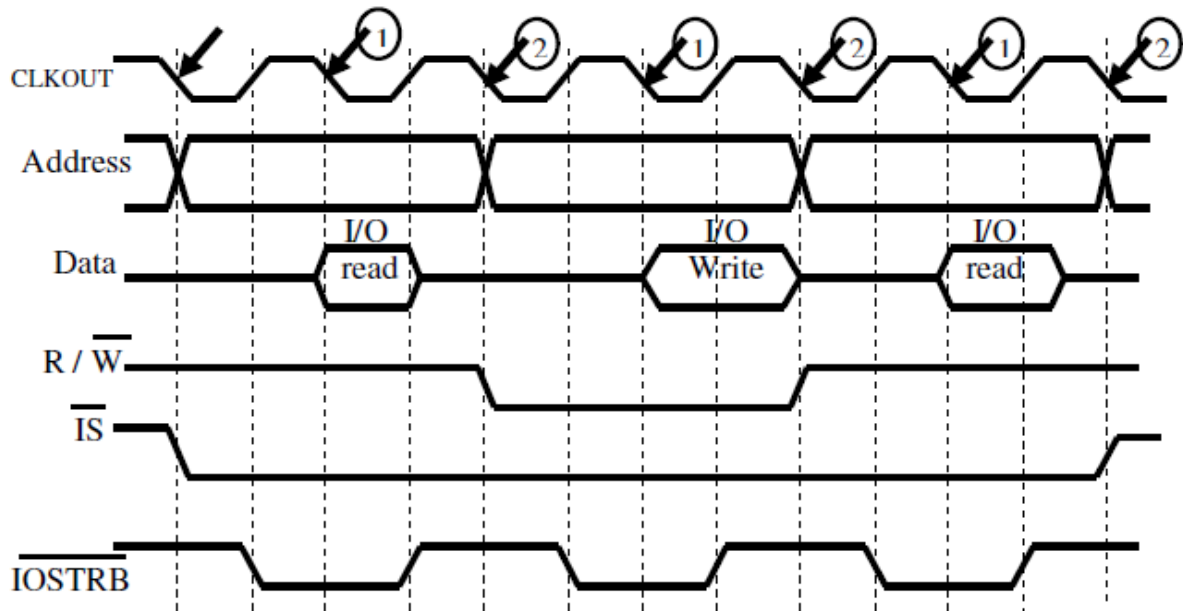

Fig. 7.6: Read-Write-Read Sequence of Operations
- The timing diagram in the case of programmed I/O is shown in fig.7.6. I/O strobe and I/O space select are issued by the DSP. Two clock cycles each are required for I/O read and I/O write operations.